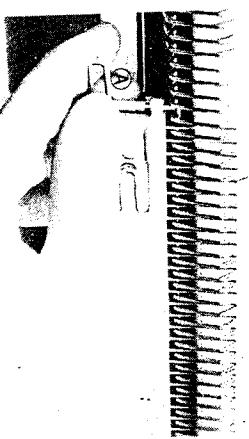

Fig. 34
Carefully unhook the comb from the pegs by turning the secure pin handle A of the cast-on comb hanger B and let the cast-on comb hang in the loops of wool. (See Fig. 34, 35)
3. Place hooks between pegs of needle bed as far up as possible. (See Fig. 34.)